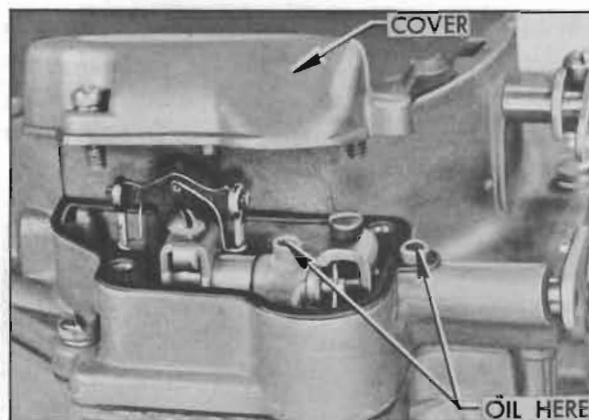

Figure 1-13—Countershaft Lubrication—Carter 2-Barrel
5. Pump Operating Countershaft — Carter Carburetor Only. On 2-barrel carburetors, remove dust cover and apply oil in two oil holes above countershaft. See figure 1-13.